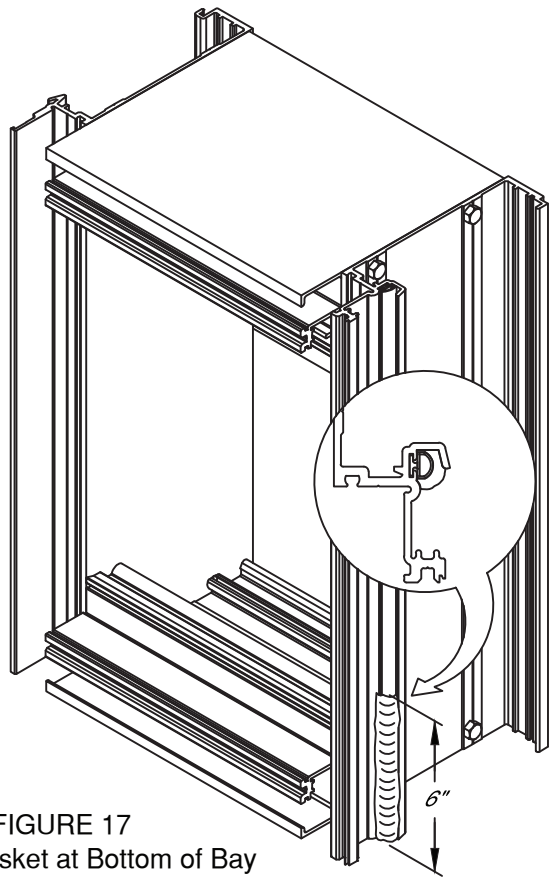

FIGURE 17
3.3 Just prior to setting next bay into opening, seal bulb gasket at sill to 6" above bottom of mullion. **NOTE: THIS 6" SEAL IS REQUIRED AT THE SILL AND BOTTOM OF MULLIONS AT SPLICE JOINT. SEE FIGURE 17, page 17.**